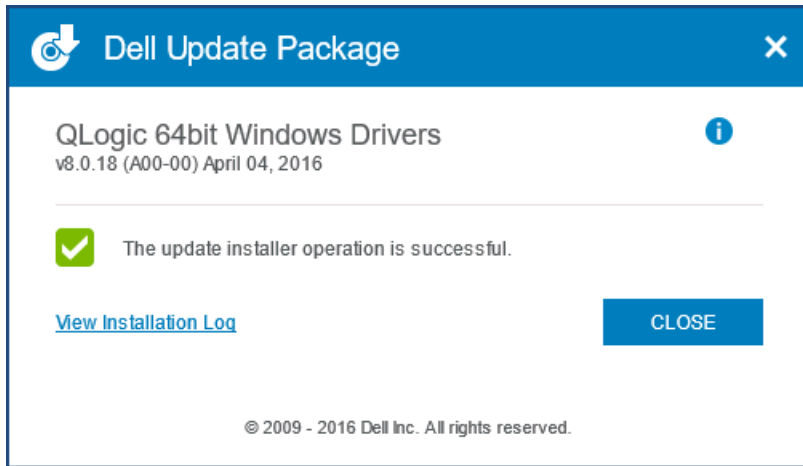

Figure 3-8. Dell Update Package Window
9. In the Dell Update Package window (Figure 3-8), “Update installer operation was successful” indicates completion.